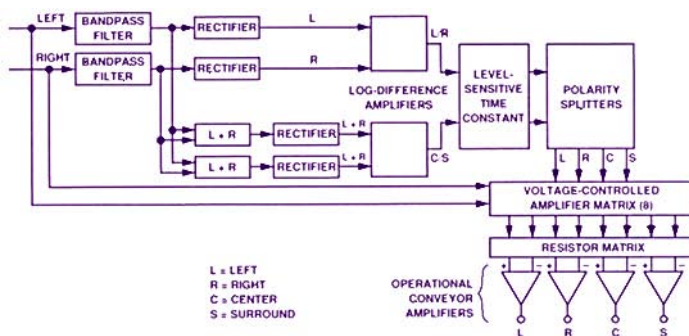

Figure 4. Signal-steering generator and decoder matrix.
**Steering Signal Generator & Decoding Matrix:** The steering signal generator and the decoding matrix (Figure 4) function as the analog-computer “brains” of the decoder. The left and right signals from the input switching and autobalance block are first bandpass-filtered by the steering signal generator, limiting signals to the 200- to 5,000-Hz range. The circuitry then computes signal amplitudes of the center ( $L + R$ ) and surround-sound ( $L - R$ ) signals. This control-path circuitry uses simple, compact, current-efficient CMOS-input, bipolar-output amplifiers having good output drive and signal headroom (noise is not important here—and low-noise bipolar amplifiers *are* used in the audio signal path).